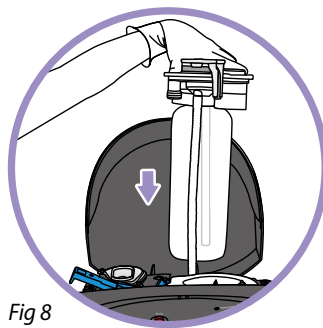

Fig 8
9. Insert the new SmartFlo™ cartridge and secure into place by pressing down (Fig 8).